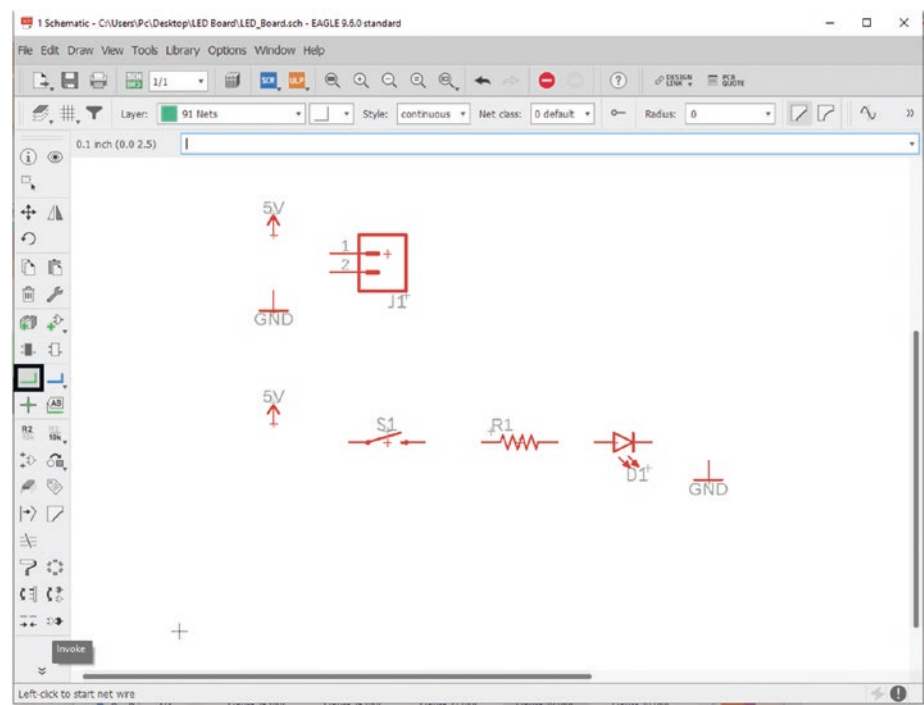

Figure 5-42. Click the “Net” button
29. Click the “Net” button; we are now in the phase where we will be connecting the various components together. Pay special attention to each of these connections as an incorrect connection here means an incorrect connection on the board layout, which can cause serious problems with your board. See Figure 5-42.